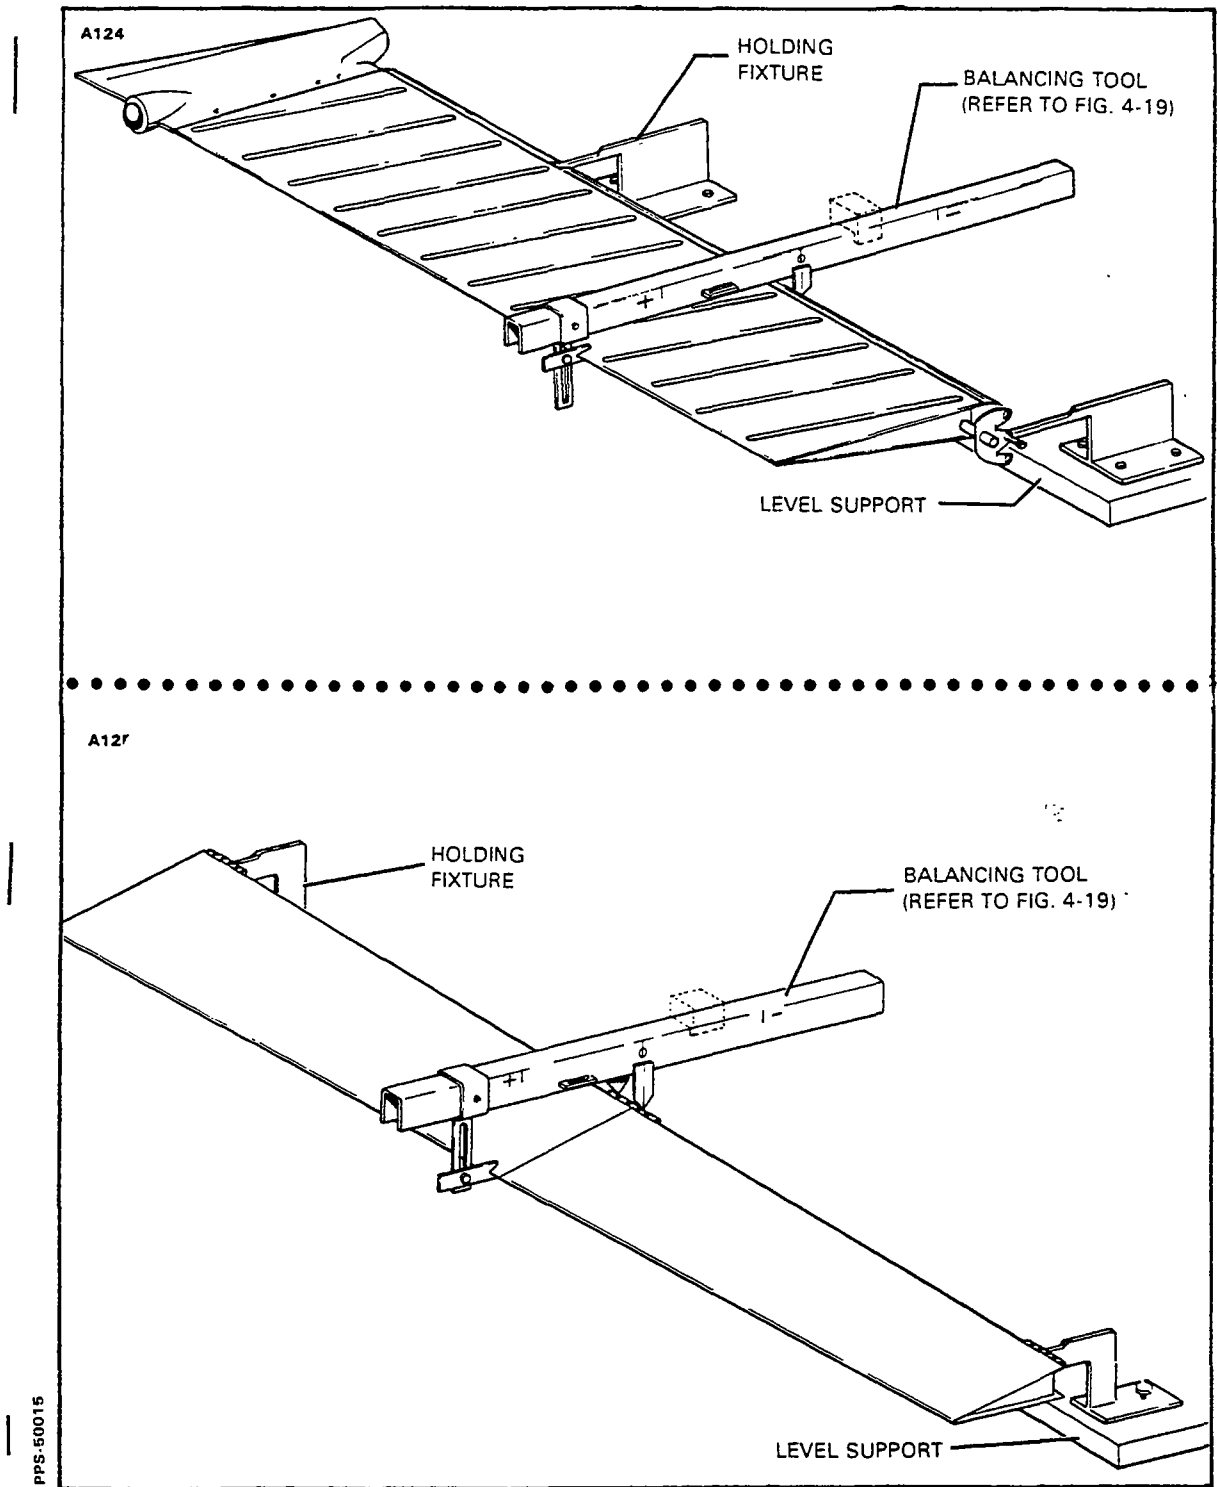

Figure 4-20. Aileron and Rudder Balance Configuration
- d. After balancing the tool, reattach it to the control surface per Figures 4-20 and 4-21. Keep the beam positioned 90° from the control surface hinge line.
4-73. BALANCING AILERONS. (Refer to Figure 4-20.)
4-74. BALANCING RUDDER. (Refer to Figure 4-20.)